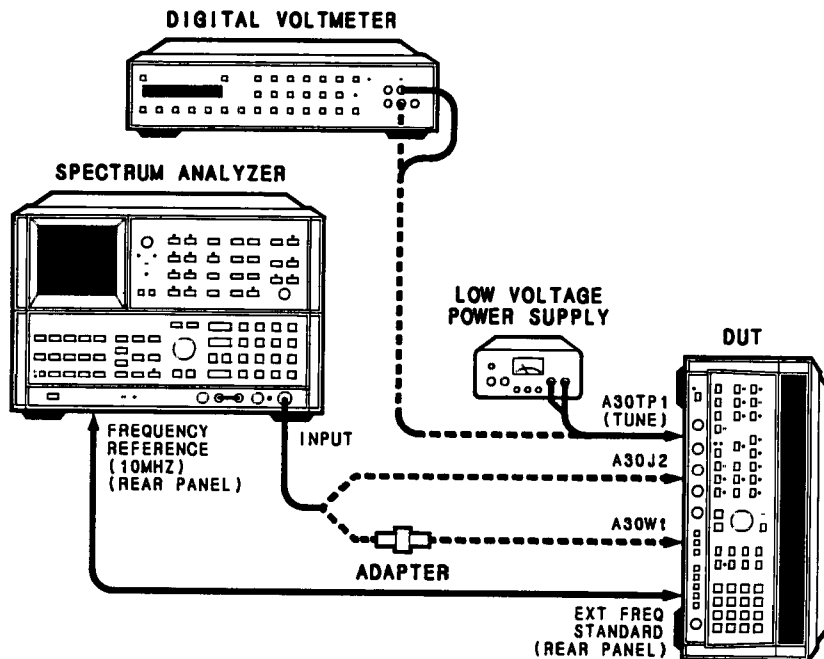

Figure 5-5. 100 MHz VCXO Adjustment Setup
1. Position DUT into the Test Position as shown in Figure 5-5 with the bottom cover removed. On the DUT's rear panel, disconnect the BNC cable connected between INT and EXT Frequency Standard connectors, set INT/EXT switch to EXT, then connect a BNC cable from EXT connector to Spectrum Analyzer's Frequency Reference (10 MHz) rear-panel connector. Allow the test equipment to warm up for one-half hour.